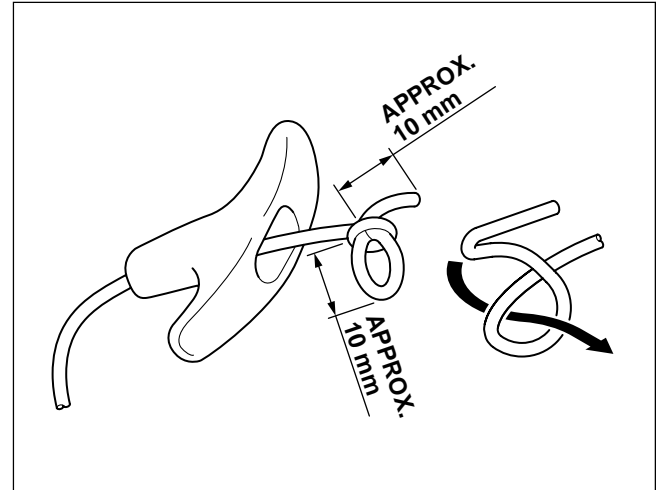

Fig. 9-3
- (1) Pass the starter rope through the starter knob and make an overhand knot as shown in Fig. 9-3. Pass the opposite side of the starter rope from the starter case to the reel, and make a knot in the same way, then put the rope end securely into the rope housing in the reel. Then, apply a small amount of grease on the starter shaft and on the spiral spring.